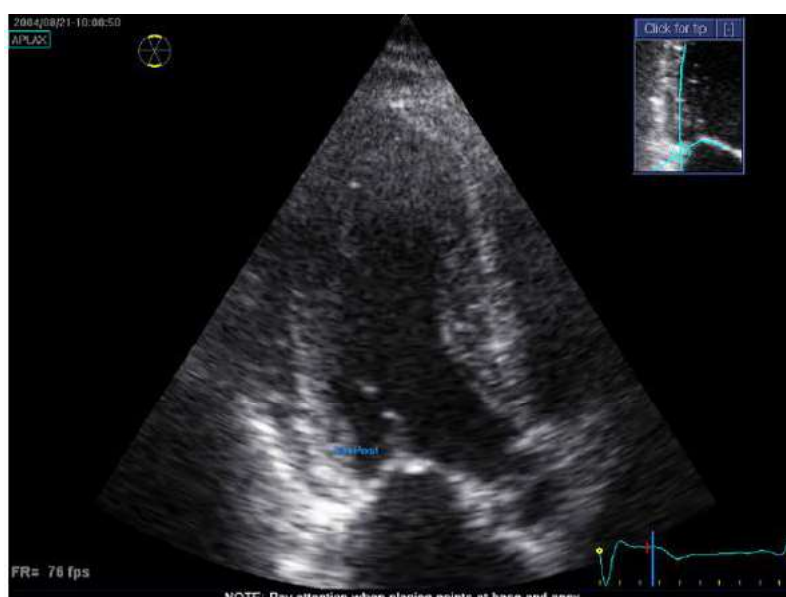

Figure 13-169. Defining a ROI
3. To define a ROI, place three points at the endocardial border; two annular points and one at the apex (see Figure 13-169). Follow the indications displayed next to the pointer and on the Status bar when placing the three points.